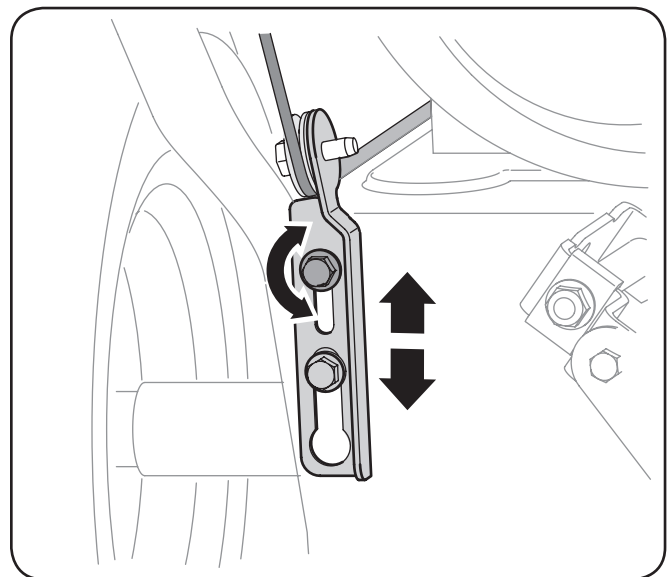

Figure 3-15
4. Allow the auger to remain engaged for approximately ten (10) seconds before releasing the auger control. Repeat this several times.
7. To readjust the control cable, loosen the upper hex nut on the auger cable bracket. See Fig. 3-15.